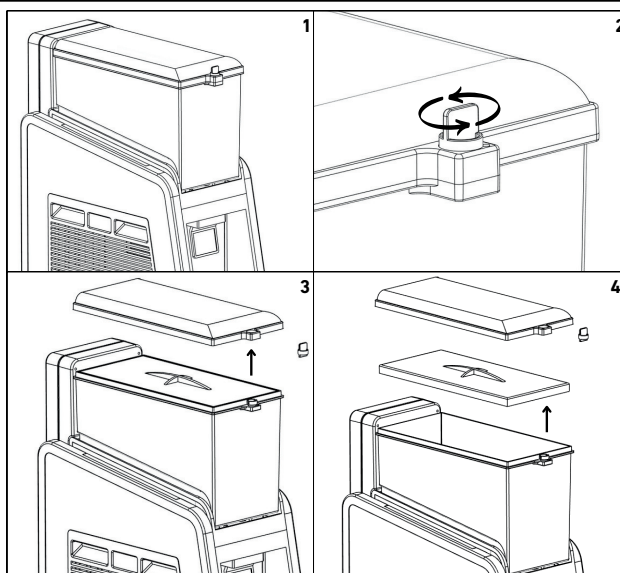

Figure 20
21.1.4. The disassembly order of the covers is illustrated in Figure 20.